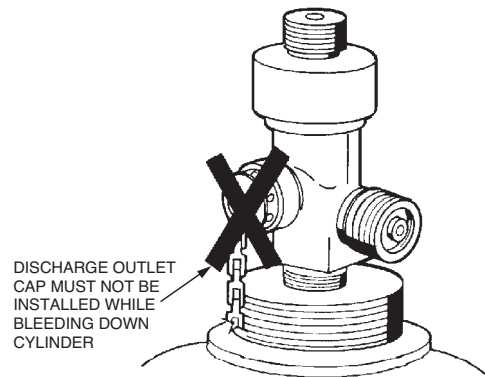

FIGURE 3
- b. Make certain discharge outlet cap IS NOT in place on valve outlet. See Figure 3.